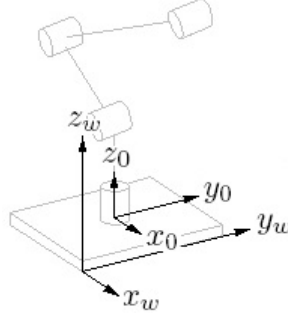

Figure 4.3: Correct location and orientation of the world frame.
1. Establish the world coordinate frame (frame w) centered at the corner of the UR3’s base shown in Figure 4.3. The x_w and y_w plane should correspond to the surface of the table, with the x_w axis parallel to the sides of the table and the y_w axis parallel to the front and back edges of the table. Axis z_w should be normal